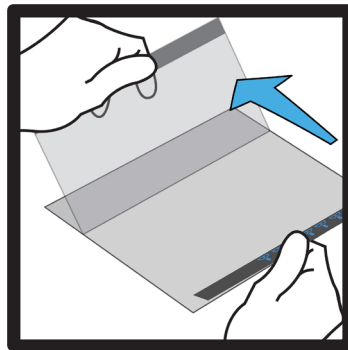
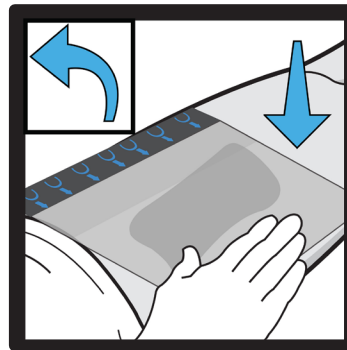

Figure 6
Figure 7
10. Remove the drape's release liner starting with tab A (**Figure 6**). Invert and place over the foam and peri-wound (**Figure 7**) and continue removing the contact layer with B tab and C tab (**Figures 8-9**). Remove the remaining perforated tab (**Figure 10**). Gently press down on drape material down around the wound site and over the foam to ensure dressing is properly sealed.